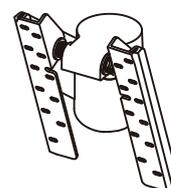

Fig.3-31 Monitor bracket
(10) Monitor Bracket (Optional) (Fig.3-31)